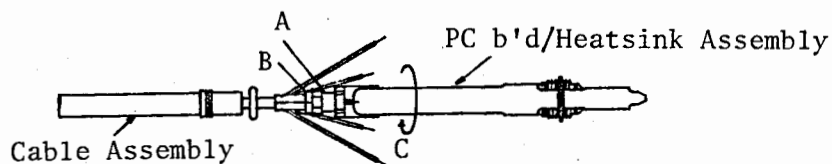

Figure 6-9. PC Board/Heatsink Assembly Removal
- a. Hold the probe at positions **A** and **B** as shown in Figure 6-9 using pliers or a wrench.
- b. Remove the PC Board/Heatsink assembly by rotating it in the direction of arrow **C** as shown in Figure 6-9.